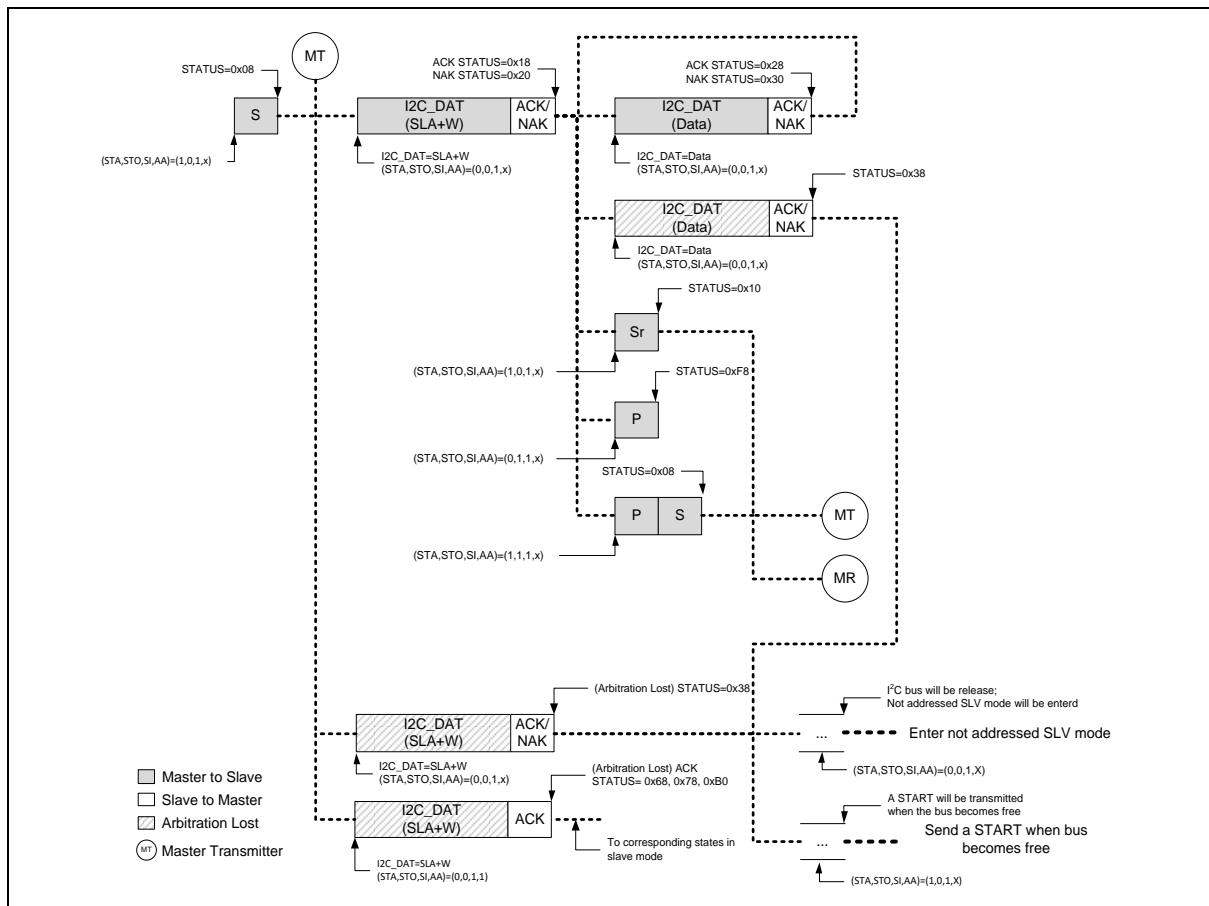
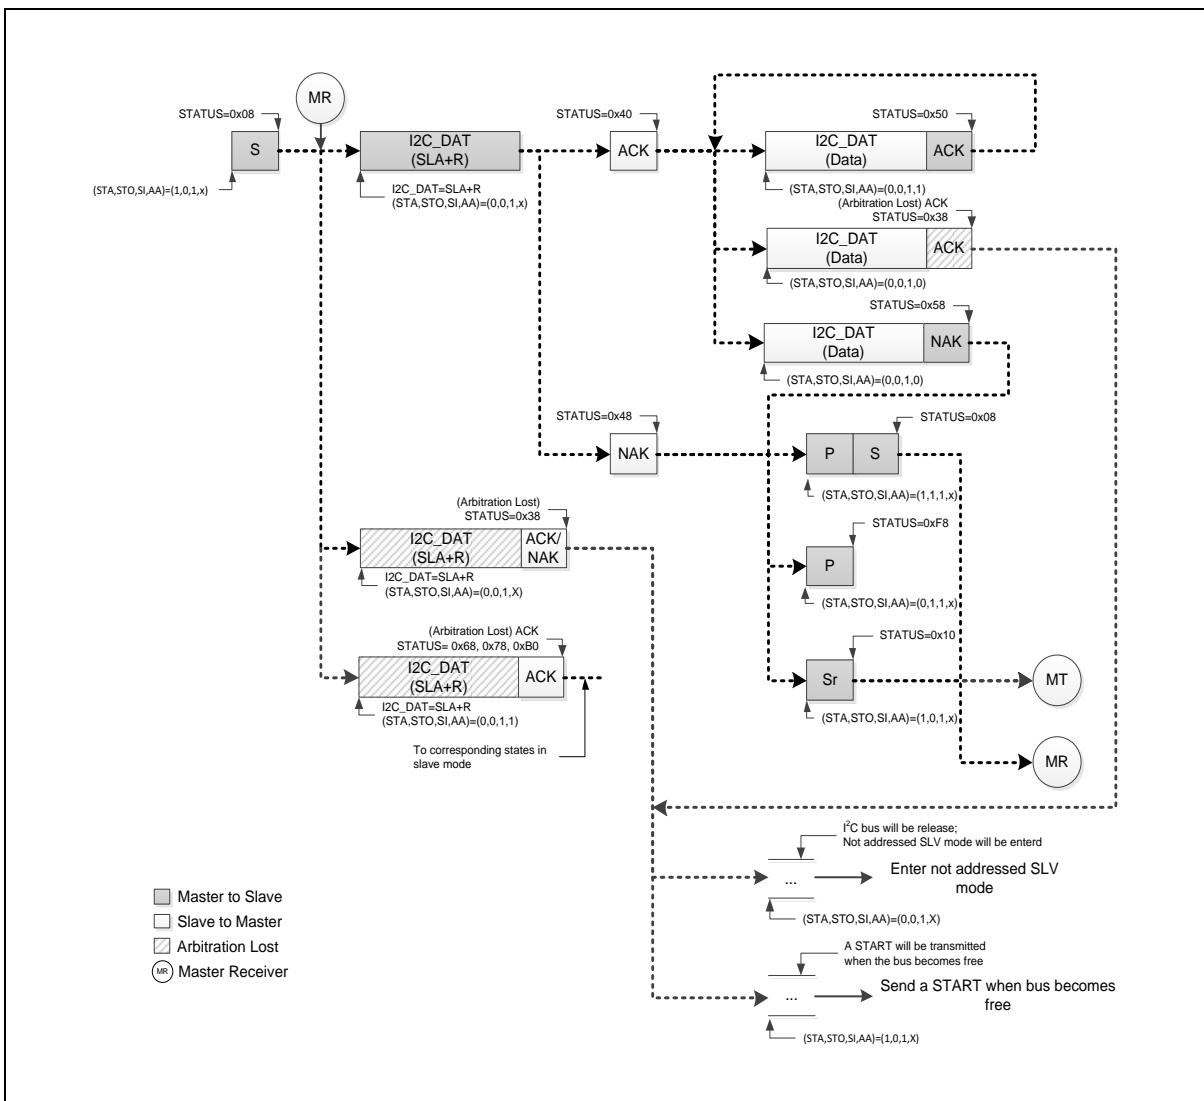

Figure 6.16-10 Master Transmitter Mode Control Flow
Figure 6.16-11 Master Receiver Mode Control Flow
In Figure 6.16-10 and Figure 6.16-11, all possible protocols for I²C master are shown. User needs to follow proper path of the flow to implement required I²C protocol.
In other words, user can send a START signal to bus and I²C will be in Master Transmitter (MT) mode (Figure 6.16-10) or Master receiver (MR) mode (Figure 6.16-11) after START signal has been sent successfully and new status code would be 0x08. Followed by START signal, user can send slave address, read/write bit, data and Repeat START, STOP to perform I²C protocol.